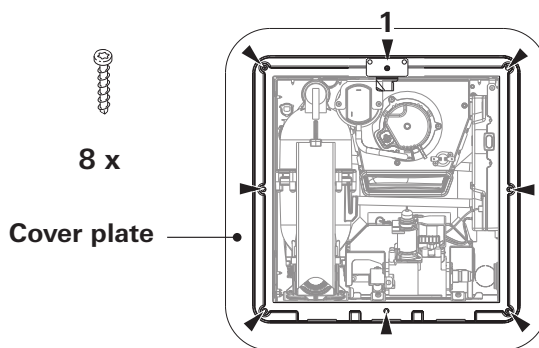

Fig. 17
9. Fasten the cover plate to the Truma AquaGo™ instant water heater (see Fig. 17):